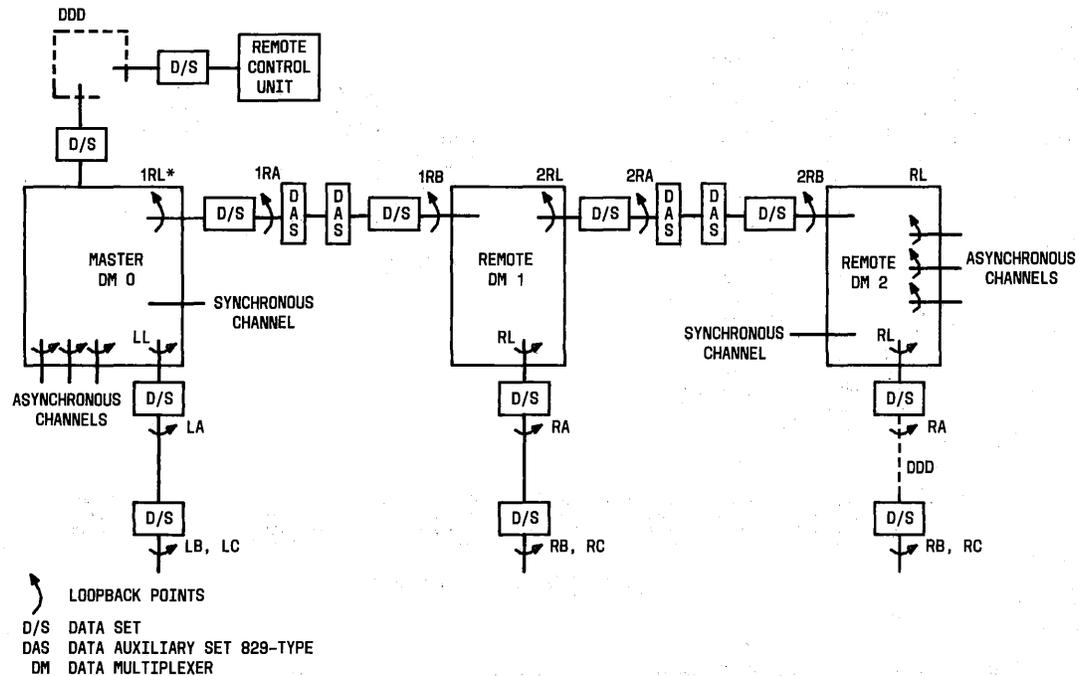

Fig. 5—DMS Loopback Points
**4.09** In the TM mode, the RMUX/FR/LOOP buttons initiate various synchronous port loopbacks in combination with TM switch positions. Depressing the upper button 1 RMUX/FR/LOOP initiates a loopback of synchronous port 1. If the TM position is RL, a loopback test at the master multiplexer output is effected. If the TM position is RA and the data set or data service unit is equipped to respond to the interface signals, a loop on the line side of the data set or data service unit at the master DM is initiated. If the TM position is RB, a digital loop at the data set at port 1 of multiplexer 1 is effected. See Fig. 5 for the loopback to each position. In each case an asynchronous channel in frame 1 must be entered, and a test word is inserted into the time slot of that channel and compared to the return word.
If data sets are provided between the master DM and the customer-provided equipment (CPE) and are properly equipped, they respond to the control function to cause digital loopback of the data set at the CPE (LB or LC), or an analog loopback of the data set at the master DM (LA). Position LC is similar except that 3 seconds of space followed by the test word are transmitted through the local interface. See Fig. 5 for the loopbacks at each position.